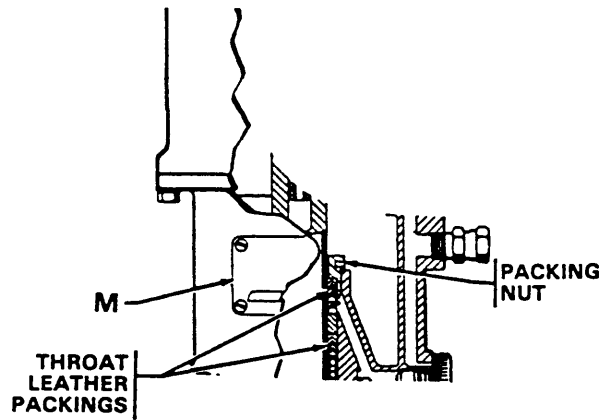

Fig 3
To check, first follow the **Pressure Relief Procedure Warning**, page 7. Then remove the identification plate (M) from the motor. Using a spanner wrench or a 0.22 in. (5.6 mm) diameter rod, adjust the nut. Reinstall the identification plate before operating the pump. See Fig 3.